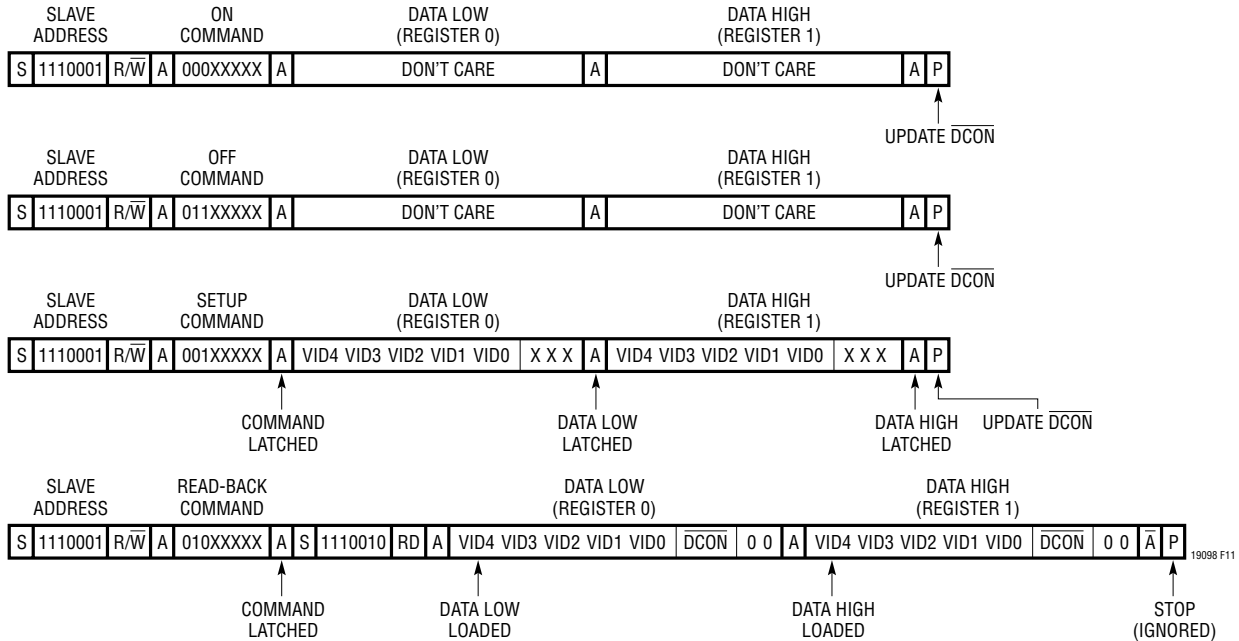

Figure 11. Write Word and Read Word Protocols
The Write Word and Read Word protocols (Figure 11) share three common features. First, the 7-bit slave address for both protocols is internally hardwired to  $1110001\text{B} = \text{E2H}$ . A single R/W bit follows the slave address. This bit is low for data transfer from the microprocessor to the LTC1909-8 and high for transfers in the opposite direction.
Each Write Word protocol (Figure 11) begins with a start bit (S) and ends with a stop bit (P). As shown in the Timing Diagram the start and stop bits are defined as high-to-low and low-to-high SDA transitions respectively, while SCL is high. In between the start and stop bits, the microprocessor transmits four bytes to the LTC1909-8. These are the address byte, an 8-bit command code and two data bytes. The LTC1909-8 samples each bit at the rising edges of the SCL clock.